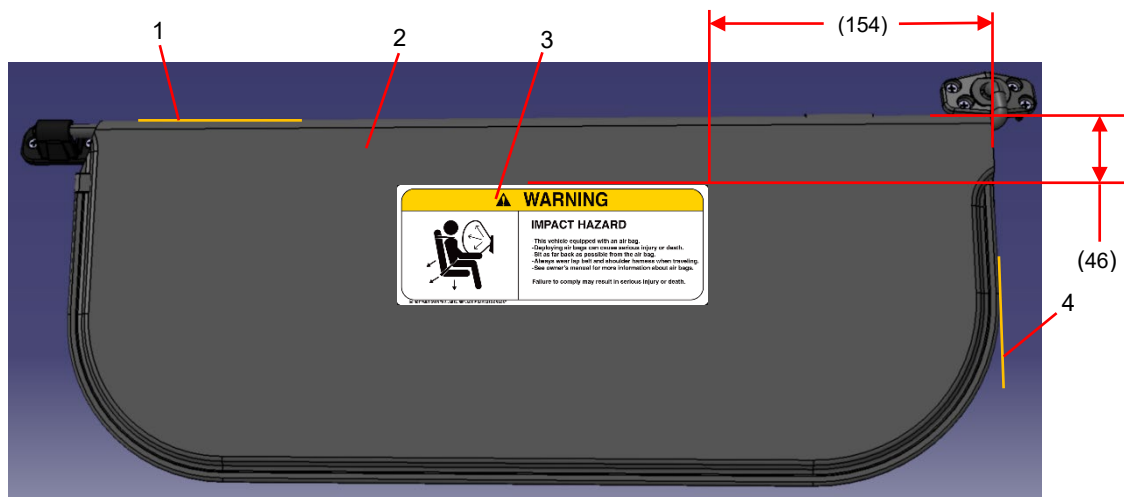

Figure 3. Impact Warning Label Installation.
- 2) Measure in from the curbside edge (Figure 3, Item 4) of the driver side sun visor (Figure 3, Item 2) a distance of 154 mm (6.06 in).
- 3) Once the placement location has been determined, remove the adhesive backing from the “Impact” warning label (Figure 3, Item 3) and affix to the pre-determined location on the driver side sun visor (Figure 3, Item 1).